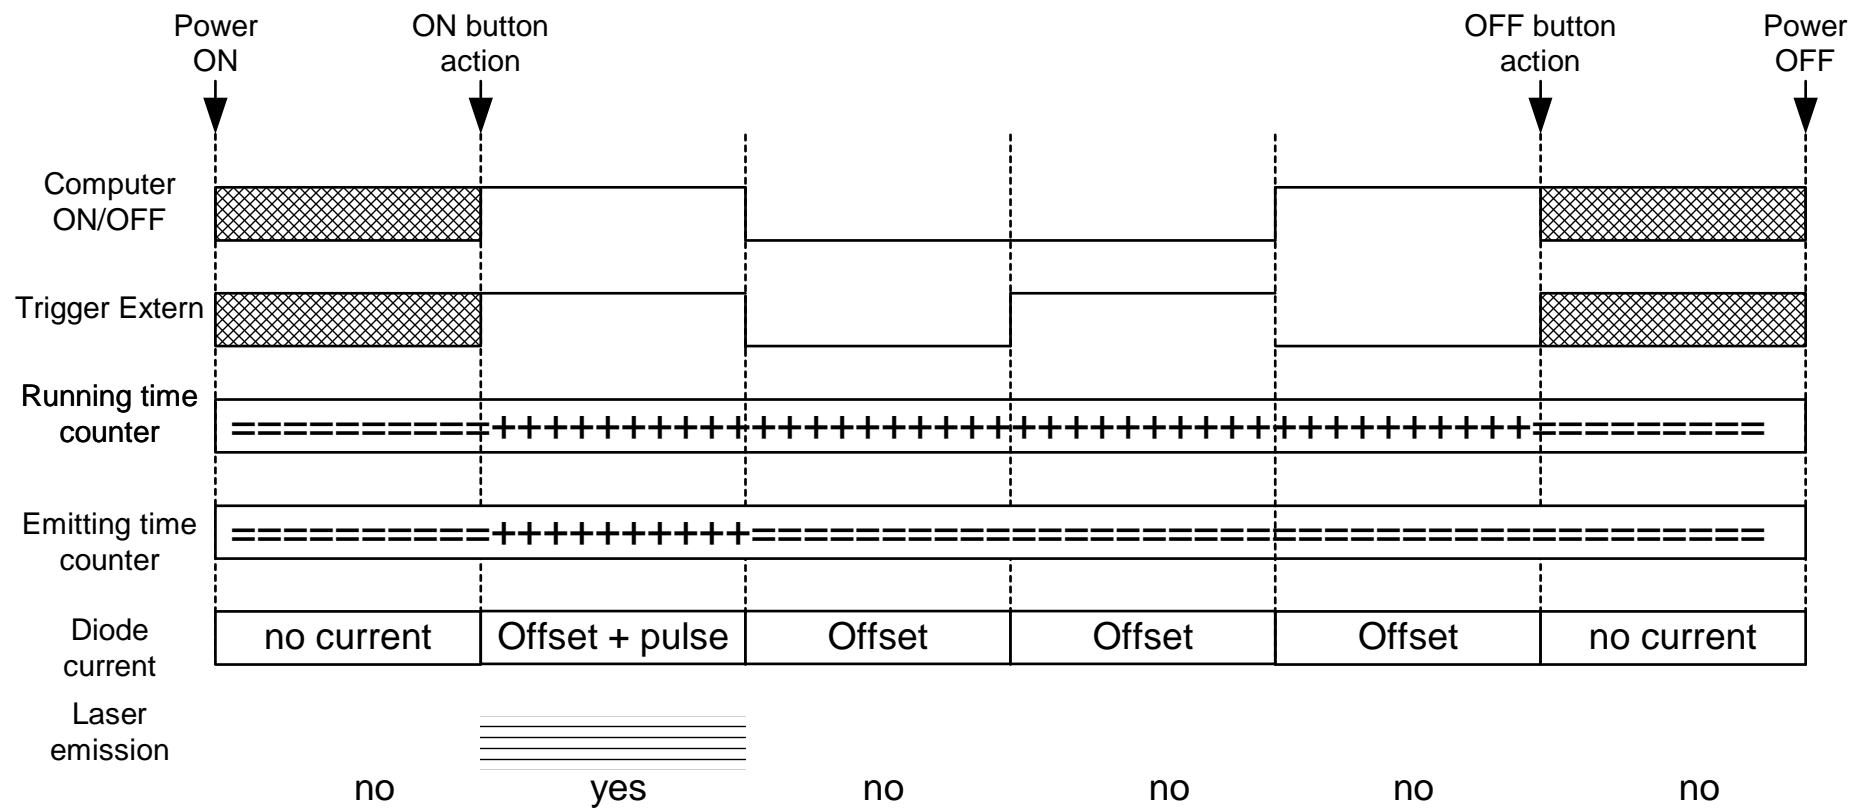

Figure 17: Chronogram for External Mode operation
6.3 Auto External Mode Operation (-x2A, -x3A; not available in CDRH version) – Fig 17